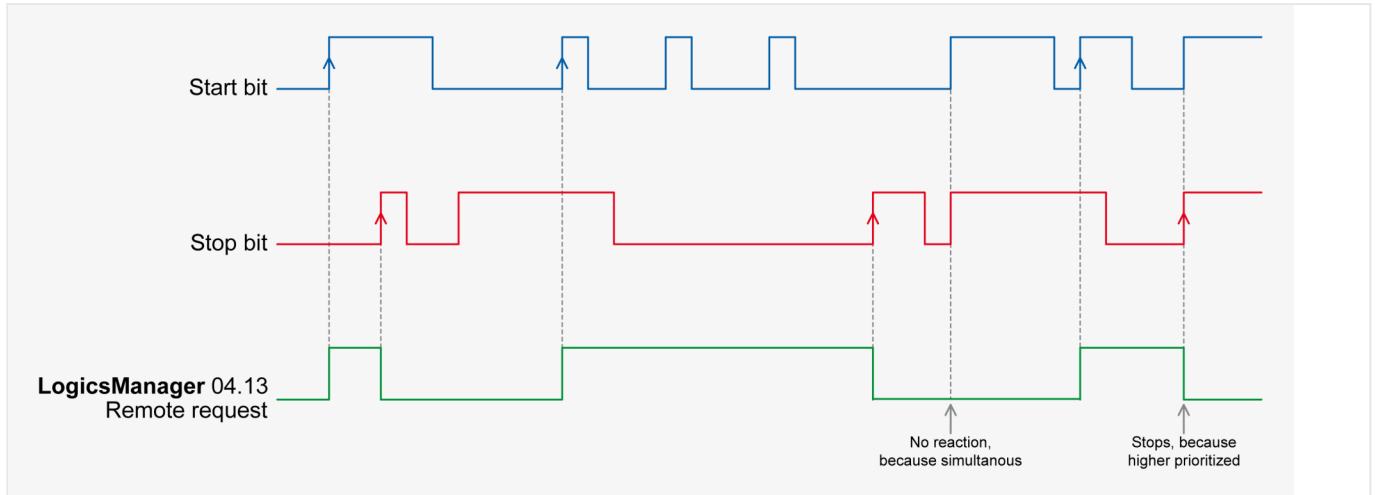

Fig. 291: Command variable
- The command variable "04.13 Remote request" changes to "0" (low) if the stop bit (ID 503, bit 1) changes from "0" to "1" (↪ Fig. 291).